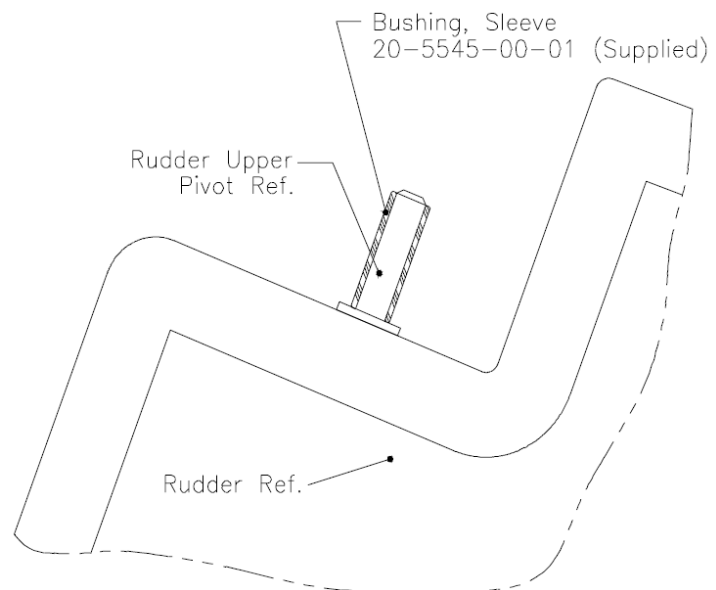

Figure 6.
- 10.9 Clean the dirt and grease from the upper rudder pivot. Install the bushing sleeve (supplied) by pressing onto the rudder upper pivot as shown in Figure 6. Install with thread locker Loctite 222.